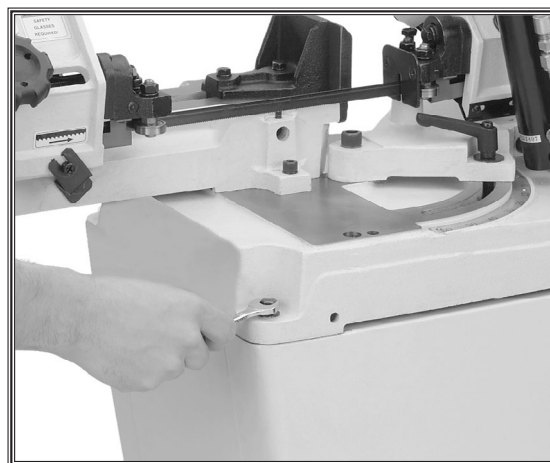

Figure 8. Installing bandsaw to cabinet.
11. Secure the bandsaw to the cabinet with four M8-1.25 x 30 hex bolts and 8mm flat washers, as shown in Figure 8.